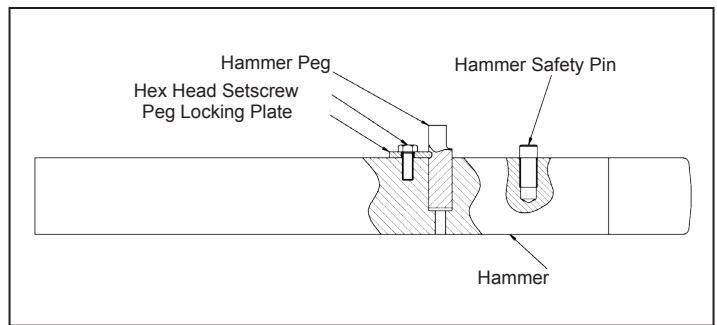

Figure 3. Hammer Adjustment
6. Remove the Hammer Peg and replace it in the next hole. Tighten to 180 ft/lbs/240 Nm for the DH3500 and DH9000, for the DH1500 tighten to 140 ft lbs/190 Nm with the Bolt and Peg Locking Plate. See Figure 3 below.